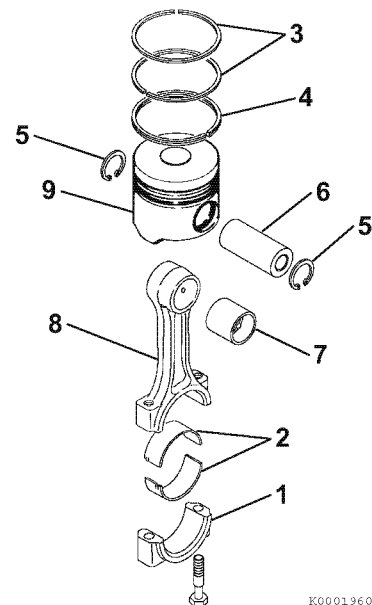

Figure 6-130
2. If removed, install a new wrist pin bushing (7, Figure 6-130) using a press and the appropriate service tool. Be sure to align the oil holes.
- Reinstall one circlip (5, **Figure 6-130**) into the piston. Ensure the circlip is securely seated in the groove.